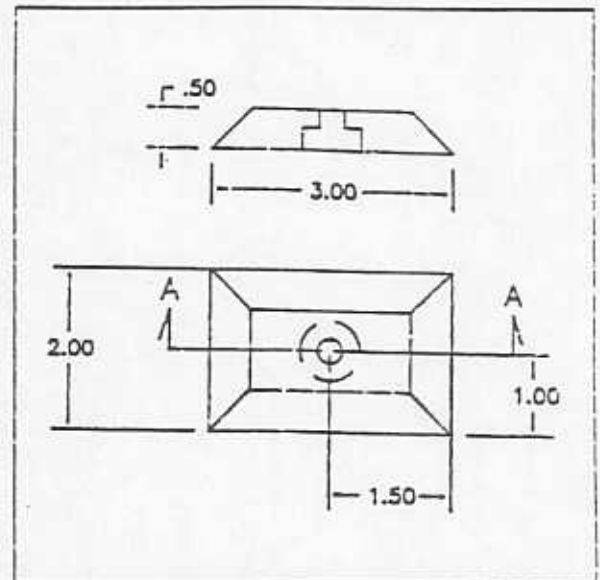
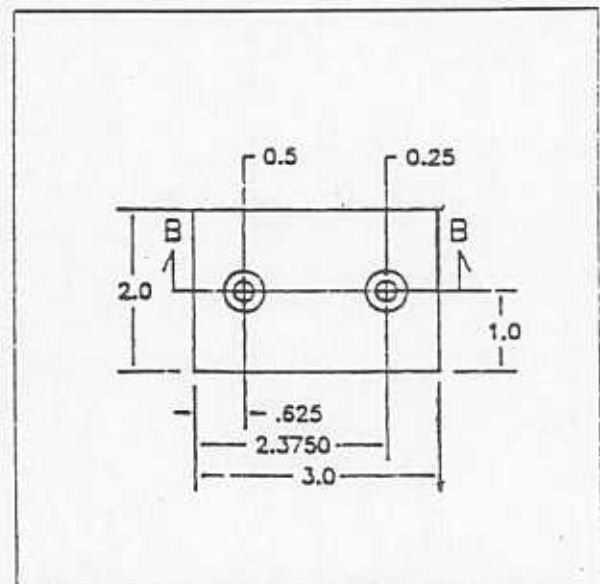

FIG 7.070-1 SINGLE HOLE BLOCK
FIG 7.070-2 DOUBLE HOLE BLOCK
The G-10 hardpoints are made by sawing the 6" X 8" block (PN 112 14 000) into eight 2" x 3" blocks. Utilize these blocks to construct six (6) single hole blocks, part number 112-14-040 (Fig 7.070-1) and two double hole blocks (Fig 7.070-2). In some cases the factory has shipped 8 (1.5" X 5") blocks in place of the 6" X 8" block. These should be used in place of the 2" X 3" blocks.